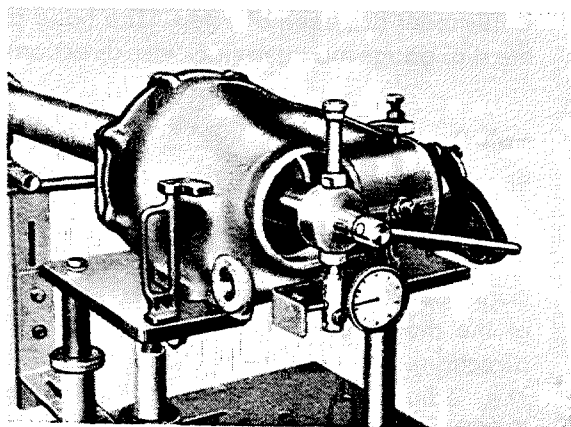

Fig. H 3a/59
59. Measure the tooth backlash with tool 190 589 01 21 (Fig. H 3a/59).